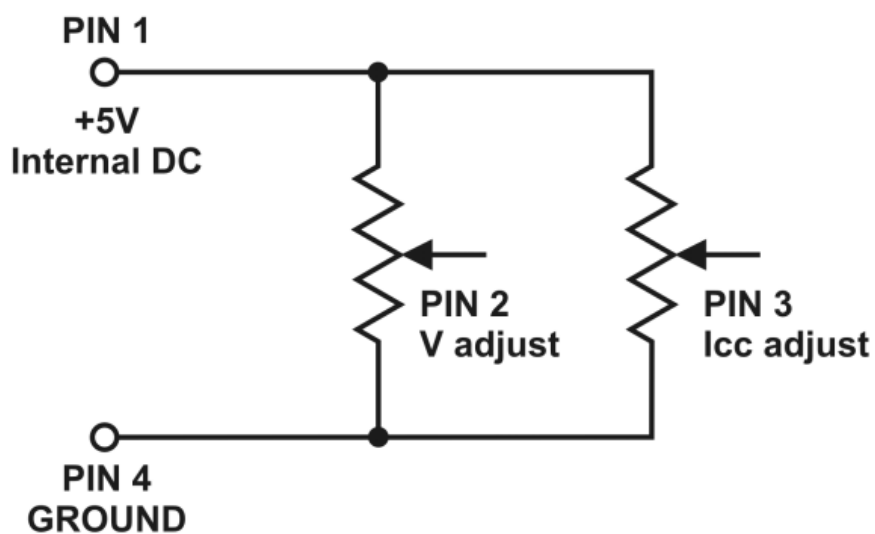

Figure 7 - Variable 5 k Ω Resistors Setup
2. Prepare two 5 k Ω variable resistors and connect wires from pins 1, 2, 3, and 4 as shown in Figure 7.